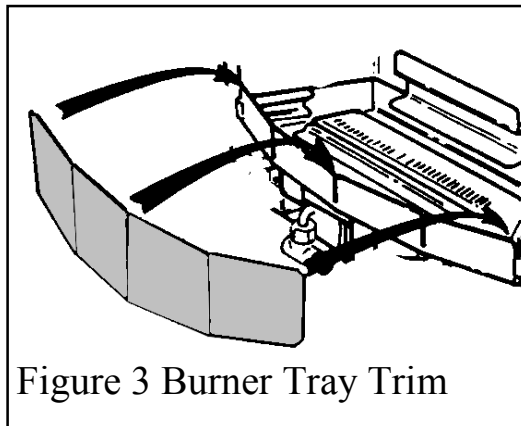

Figure 3 Burner Tray Trim
2. Fit the burner tray trim over the front rim of the burner tray. Push the trim fully down. See figure 3.